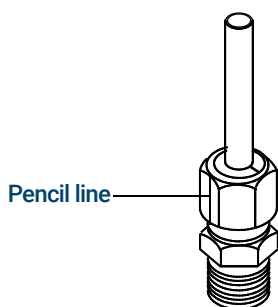

Figure 27. Mark the fitting
- 7 Mark the nut with a pencil line. See **Figure 27**.